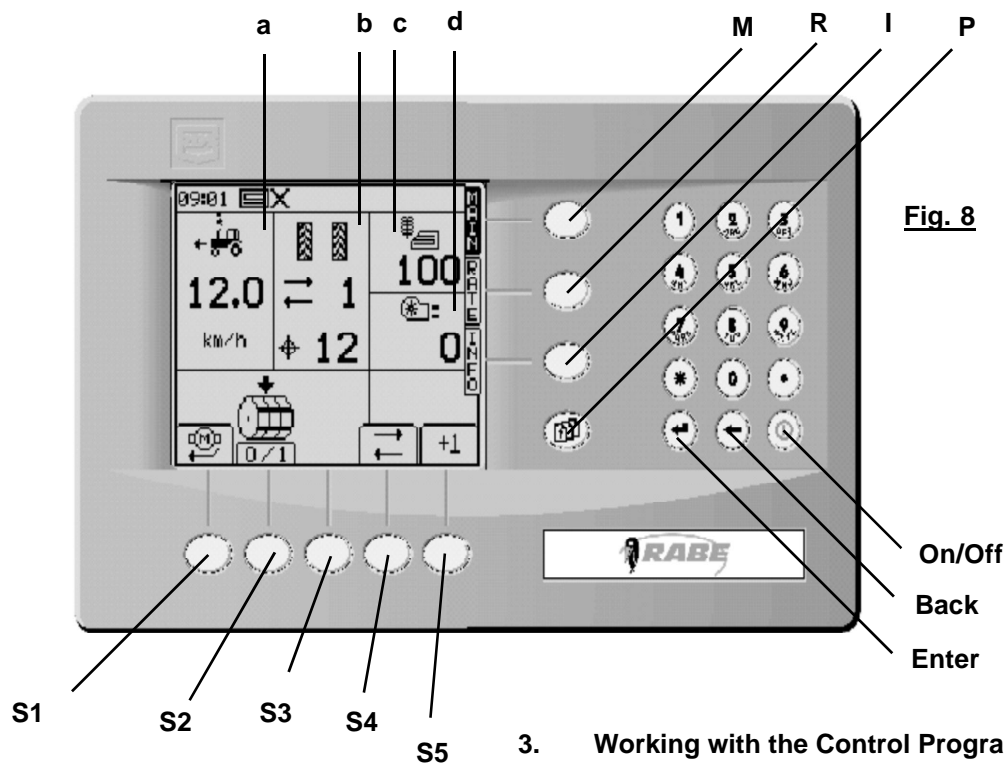

Fig. 8
- After switching on the unit, press the bottom left softkey <S1> immediately **(Fig. 8)**: